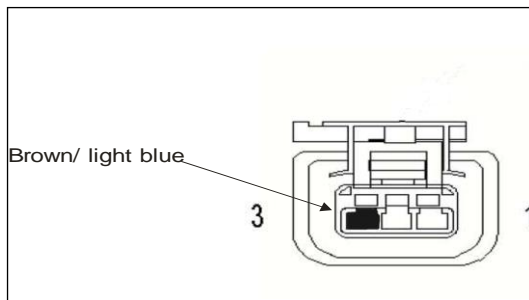

Figure 39– Crank Position Sensor (looking into front of connector)
- Solder and seal the white wire from the throttle control to the brown wire with a light blue stripe that is connected to the crank position sensor (Figure 39).